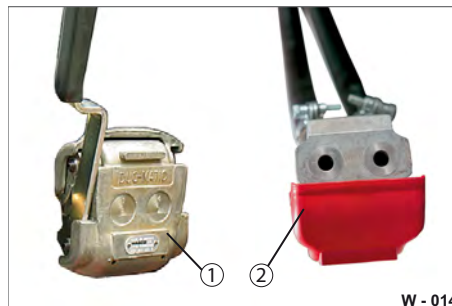

Fig. 49 Coupling head disassembled
- ▶ Clean the sealing surfaces of the coupling head (Fig. 49/2) and the coupling mating piece (Fig. 49/1) on the towing vehicle with a clean, dry cloth.